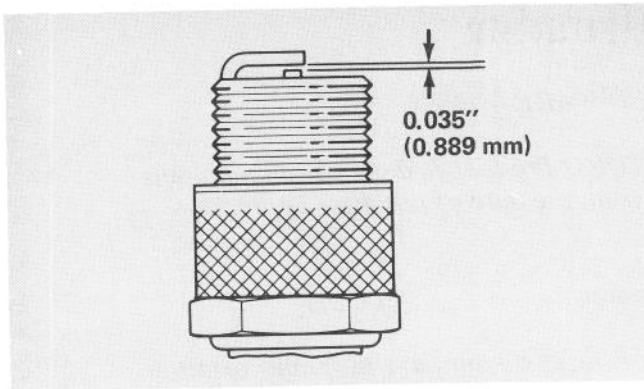

Figure 23
6. Set air gap between electrodes of new spark plug at 0.035 of an inch (0.889 m) (Fig. 23). Install spark plug in cylinder head and tighten it to 15 ft-lb (20.4 N·m). If torque wrench is not used, tighten plug firmly.